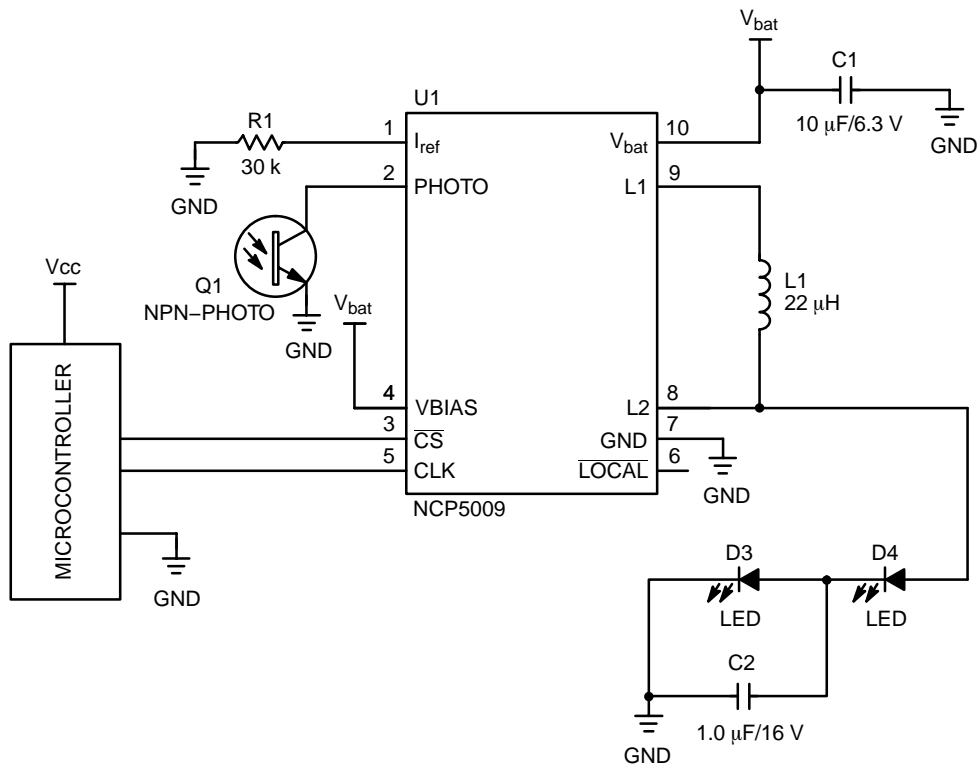

Figure 23. Typical Semi-Pulsed Mode of Operation in REMOTE Mode
- Or the Schottky can be removed and replaced by at least one LED diode as depicted in Figure 23.